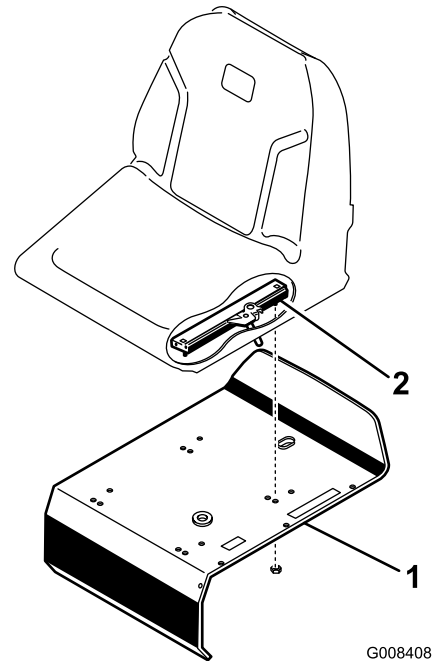

Figure 3
3. Secure the seat slides to the seat support with the locknuts (5/16 in.) (Figure 3) supplied in the loose parts.